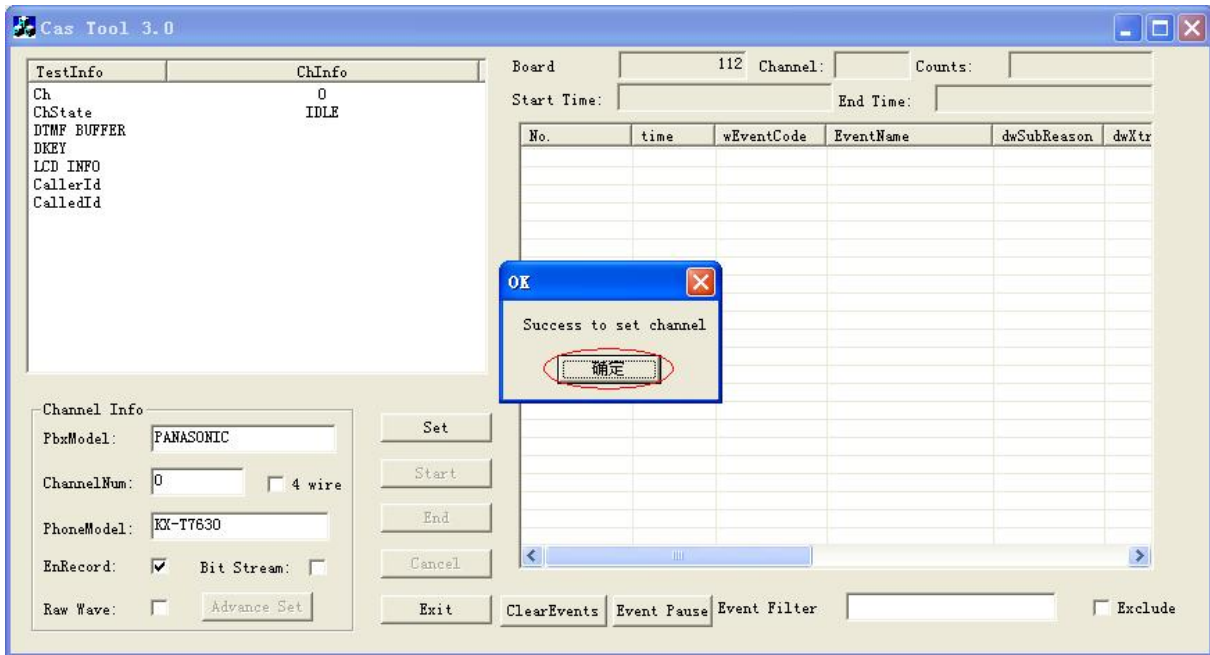

Figure 2-5
Step 5: Then the dialog box of 'Success to set channel' will pop up as shown in Figure 2-5.